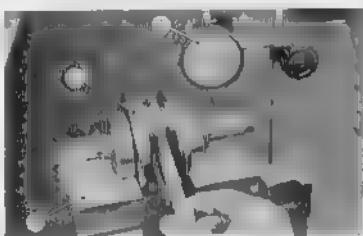

Fig. 3-82 Measuring crankshaft alignment
1. Support the crankshaft ① on V blocks ④ at both bearings and measure the amount of runout, (Fig. 3-82)